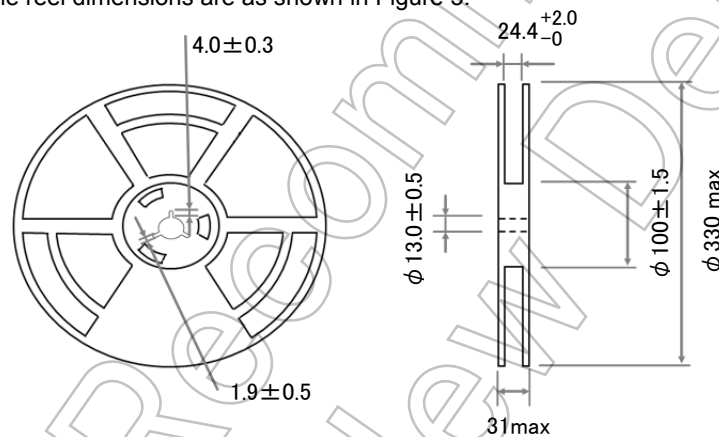

Figure 5 Reel Forms
- (1)Material: Plastic
- (2)Dimensions: The reel dimensions are as shown in Figure 5.